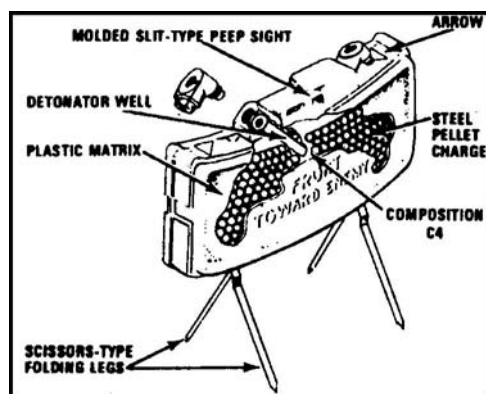

Figure 5. Placing and aiming the mine.
- b. Open both pairs of legs to a 45-degree angle with two legs facing to the front and two legs facing to the rear of the mine (Figure 5).